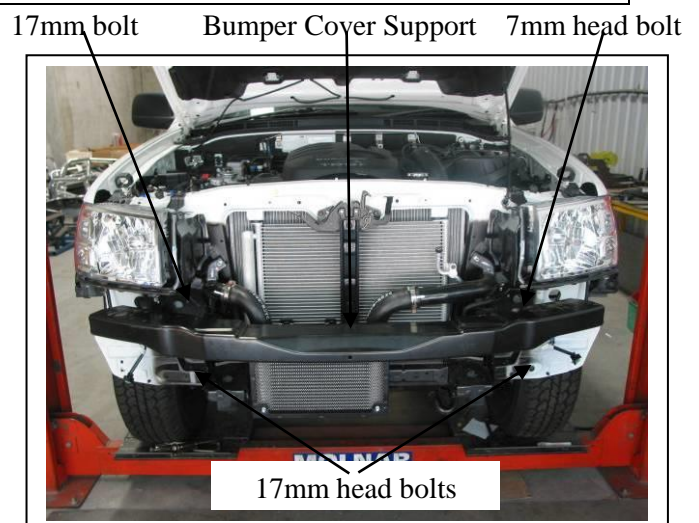

Figure2
4. Remove bumper cover support. Access from under front of support, two 17mm head bolts (one each side) and inside engine bay on top of chassis rail. Two 17mm head bolts (one each side). **See figure 2.**